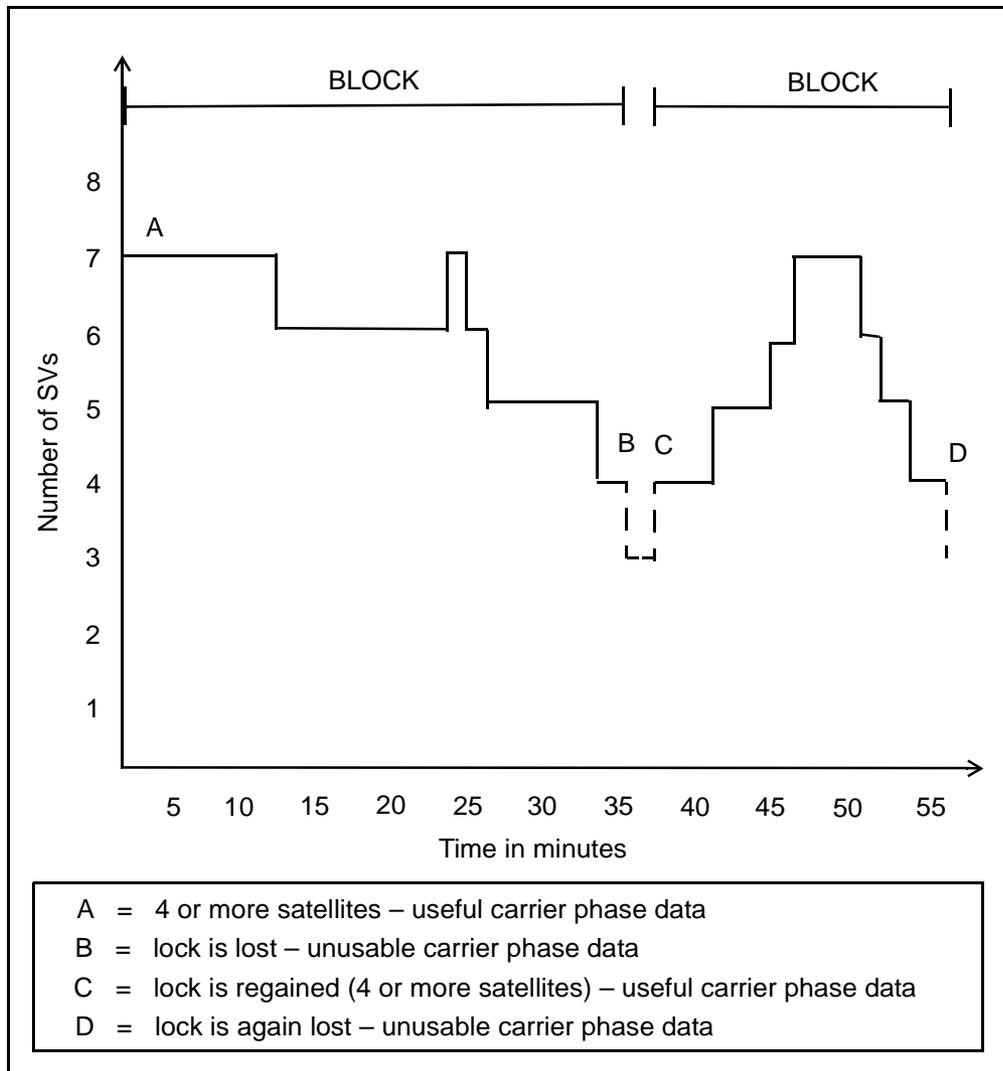

Figure H-2 Blocks of Carrier Phase Data Relative to Satellite Lock
Figure H-2 shows how the Asset Surveyor software creates distinct blocks of carrier phase data as the number of satellites changes.
In Figure H-2, the counter begins at time zero and stops at 35 minutes when lock is lost (B). This creates the first block of carrier phase data. If you specified a minimum time of 30 minutes, for example, this first block contains sufficient useful data. It should produce positions that meet the precision you require.